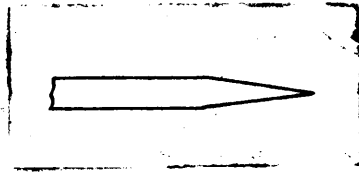

Figure 1.
2. Heat 1" of one end and draw out to a sharp point.(Figure 1).